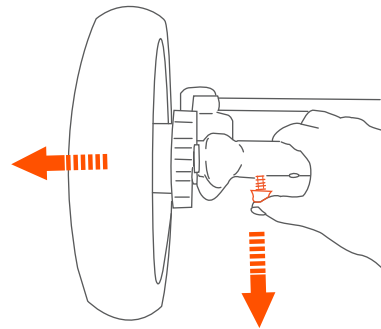

Fig. 16
- 16)** • To remove rear wheels, press the metal pin located on the rear axel and pull the wheel away (Fig. 16).